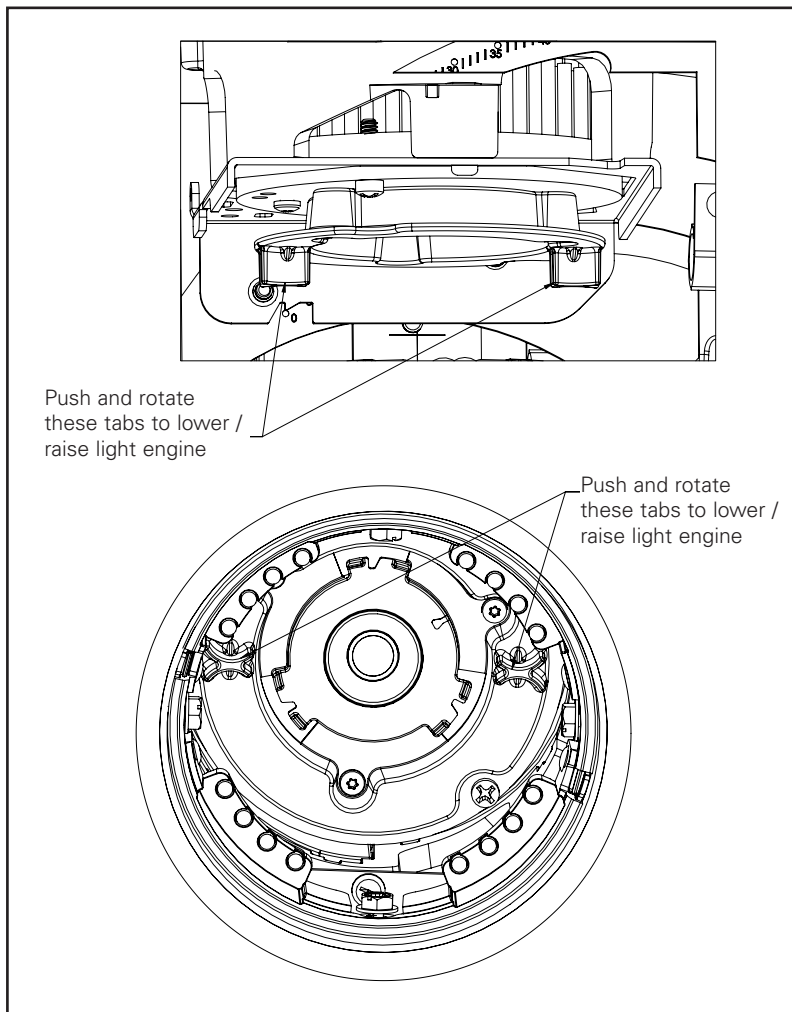

Figure 15.
3. To lower the position gently push up the light engine using LED holder tabs and then rotate it Counterclockwise direction until you feel that it is locked in position Figure 15.